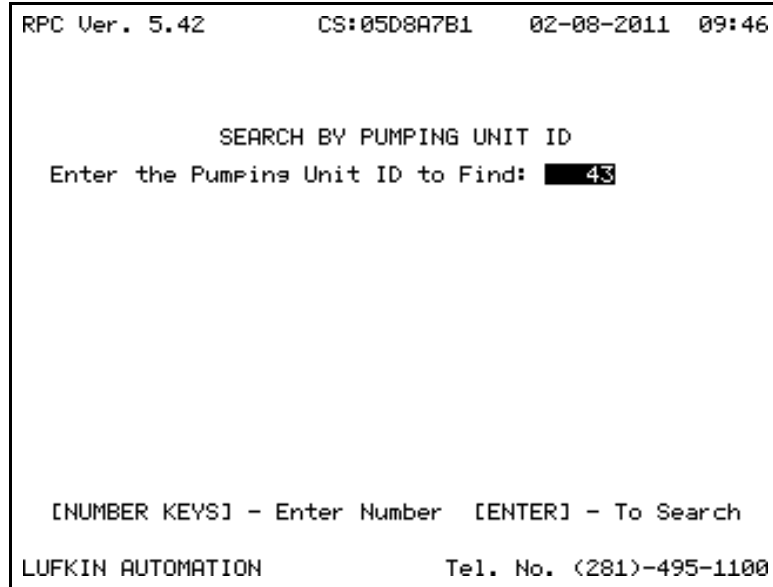

Figure 8-12. Search by Pumping Unit ID Screen
- a. Select **2. SEARCH BY PUMPING UNIT ID** to display a Search by Pumping Unit ID screen similar to Figure 8-12 (page 8-30) to enter the ID number.